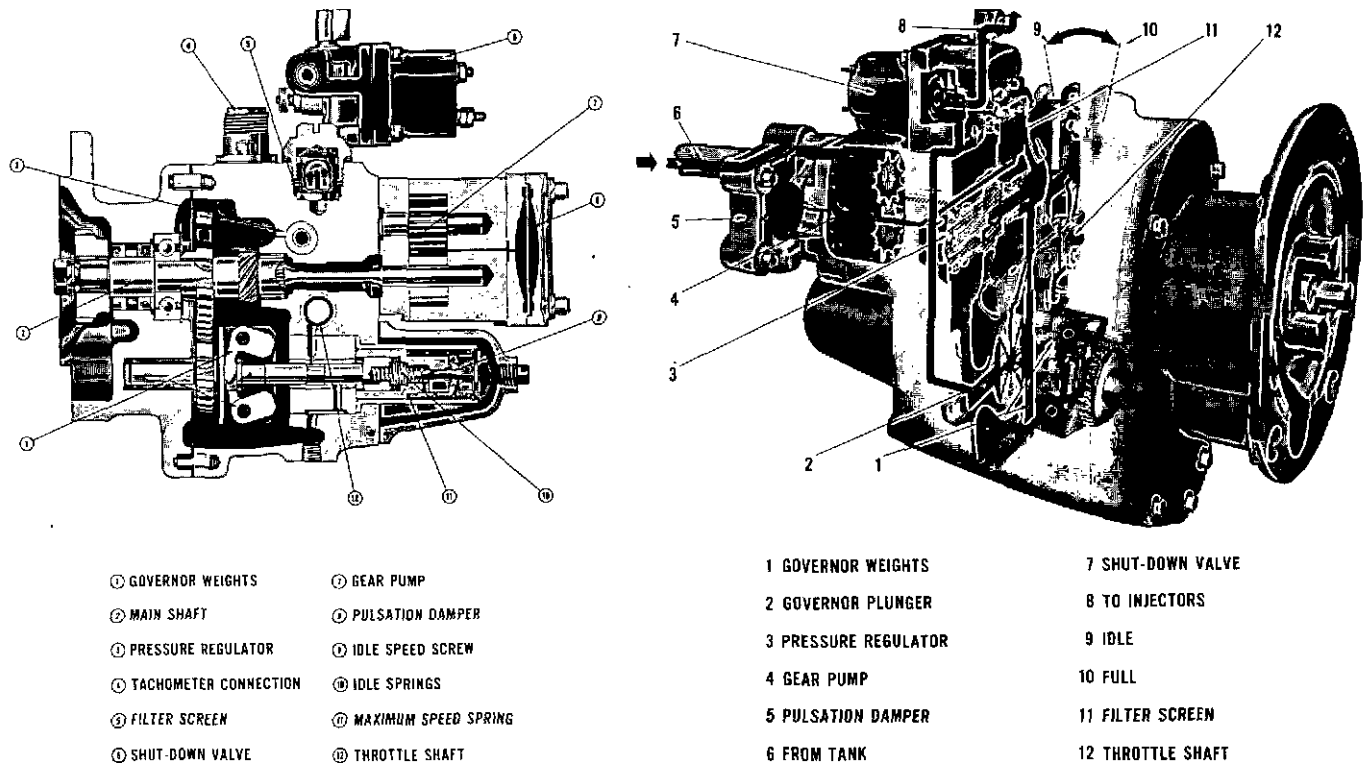

Fig. 5-5, (FWC-4). PT (type R) fuel pump and fuel flow
The PT fuel system consists of the fuel pump, supply lines, drain lines, fuel passages and injectors. Fig's. 5-1, 5-2 and 5-3. There are two types of PT fuel pumps. The first type, commonly called PT (type G), is shown in Fig. 5-4. The second type, called PT (type R), is shown in Fig. 5-5.
2. In the PT (type R) fuel pump to the pressure regulator assembly as shown in Fig. 5-5.
Used in the PT (type R) functions as a by-pass valve to regulate fuel pressure to the injectors. By-passed fuel flows back to the suction side of the gear pump. See Fig. 5-5.